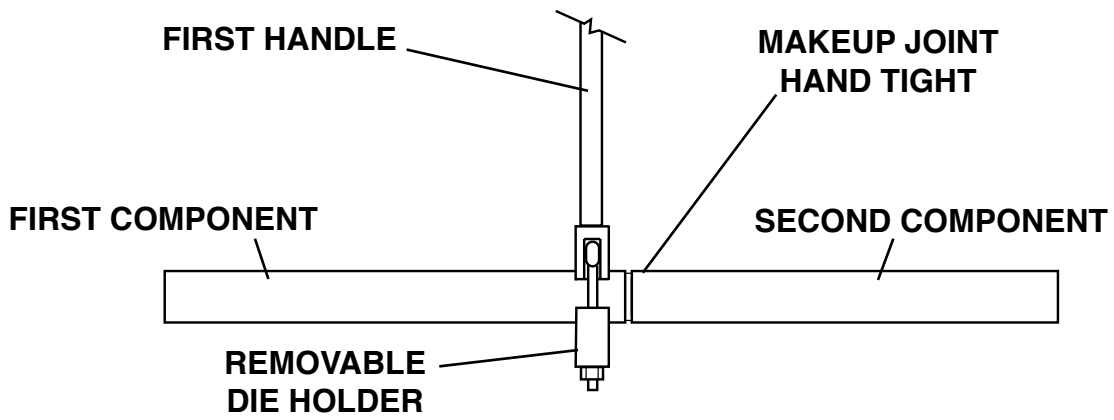

FIG 3
2. Attach wrench handle to first component. Tighten nuts to secure removable die holder. See **FIG 3**.